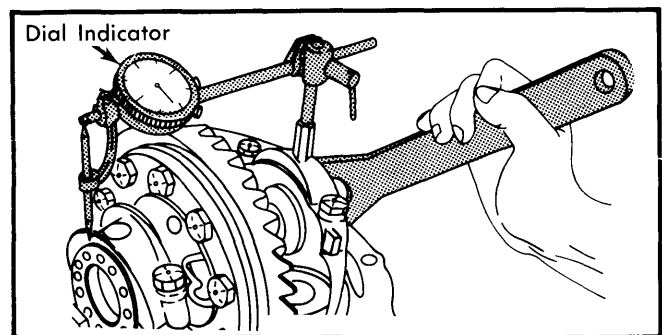

Fig. 4 Adjusting Side Bearing Preload
3) Loosen right adjusting nut until it is away from cup. Tighten left nut until ring gear is just forced into pinion with no backlash. Make sure right nut is still loose. Install dial indicator as shown in Fig. 4. Tighten right nut until it first contacts bearing cup. Then, continue tightening until side bearing preload (case spread) is to specifications. Turn pinion gear several times in each direction to seat bearings and make sure no bind is evident.